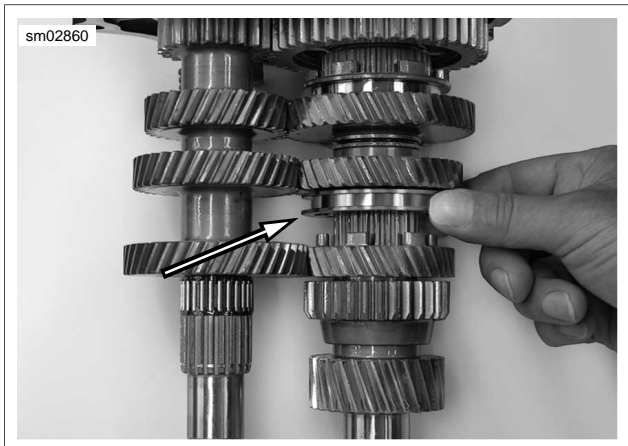

Figure 7-29. Raise and Hold Dog Ring
- See Figure 7-29. Hold dog ring so that it is engaged with countershaft 3rd gear during the press procedure. If press is performed with dog ring engaged with countershaft 4th gear, contact with mainshaft 4th gear will push shafts out of alignment and result in possible bearing and gear damage.